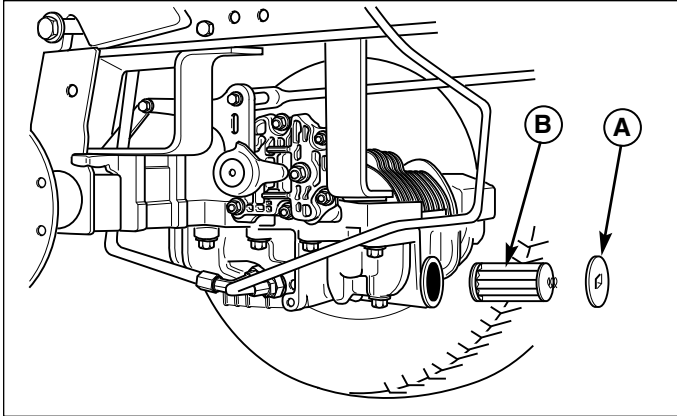
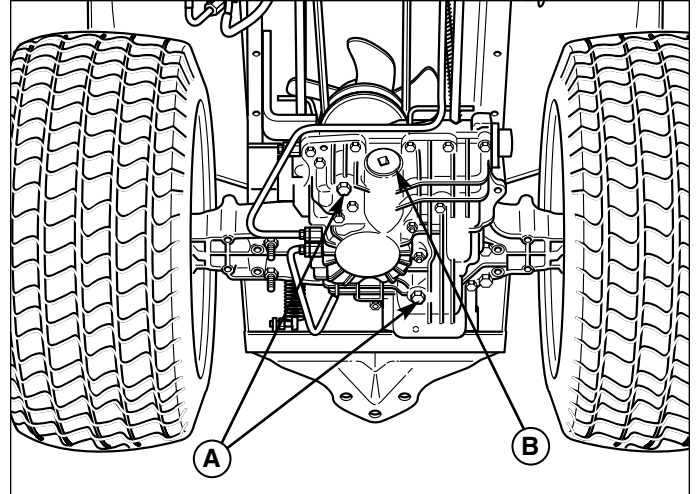

Figure 36. Internal Transmission Filter Service
Figure 37. Transmission Drain Plugs
5. Remove and replace the internal transmission filter (B, Figure 36).
6. Reinstall the filter access cap (A, Figure 36) and the two 14 mm drain plugs (A, Figure 37).